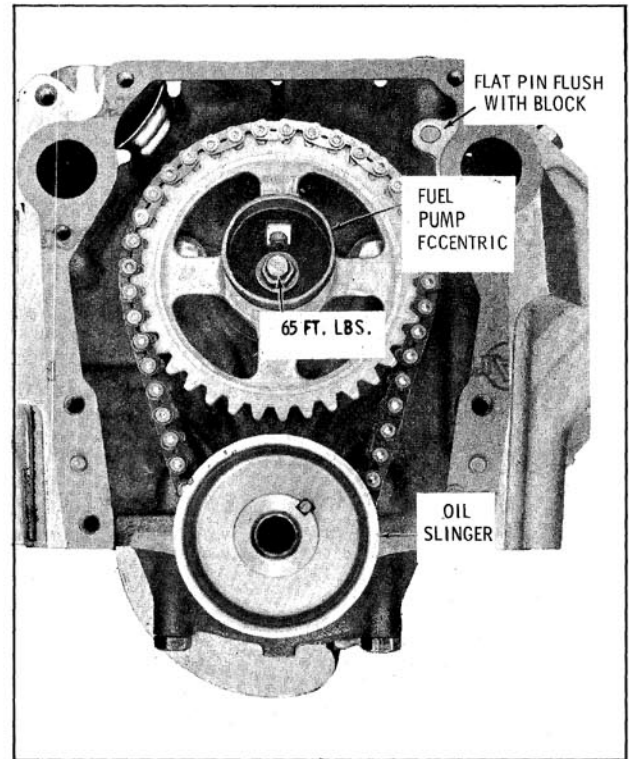

Fig. 3-94 Fuel Pump Eccentric
2. Install fuel pump eccentric with flat side rearward. (Fig. 3-94)
3. Install oil slinger. (Fig. 3-94)
## CAMSHAFT (Fig. 3-94-A)